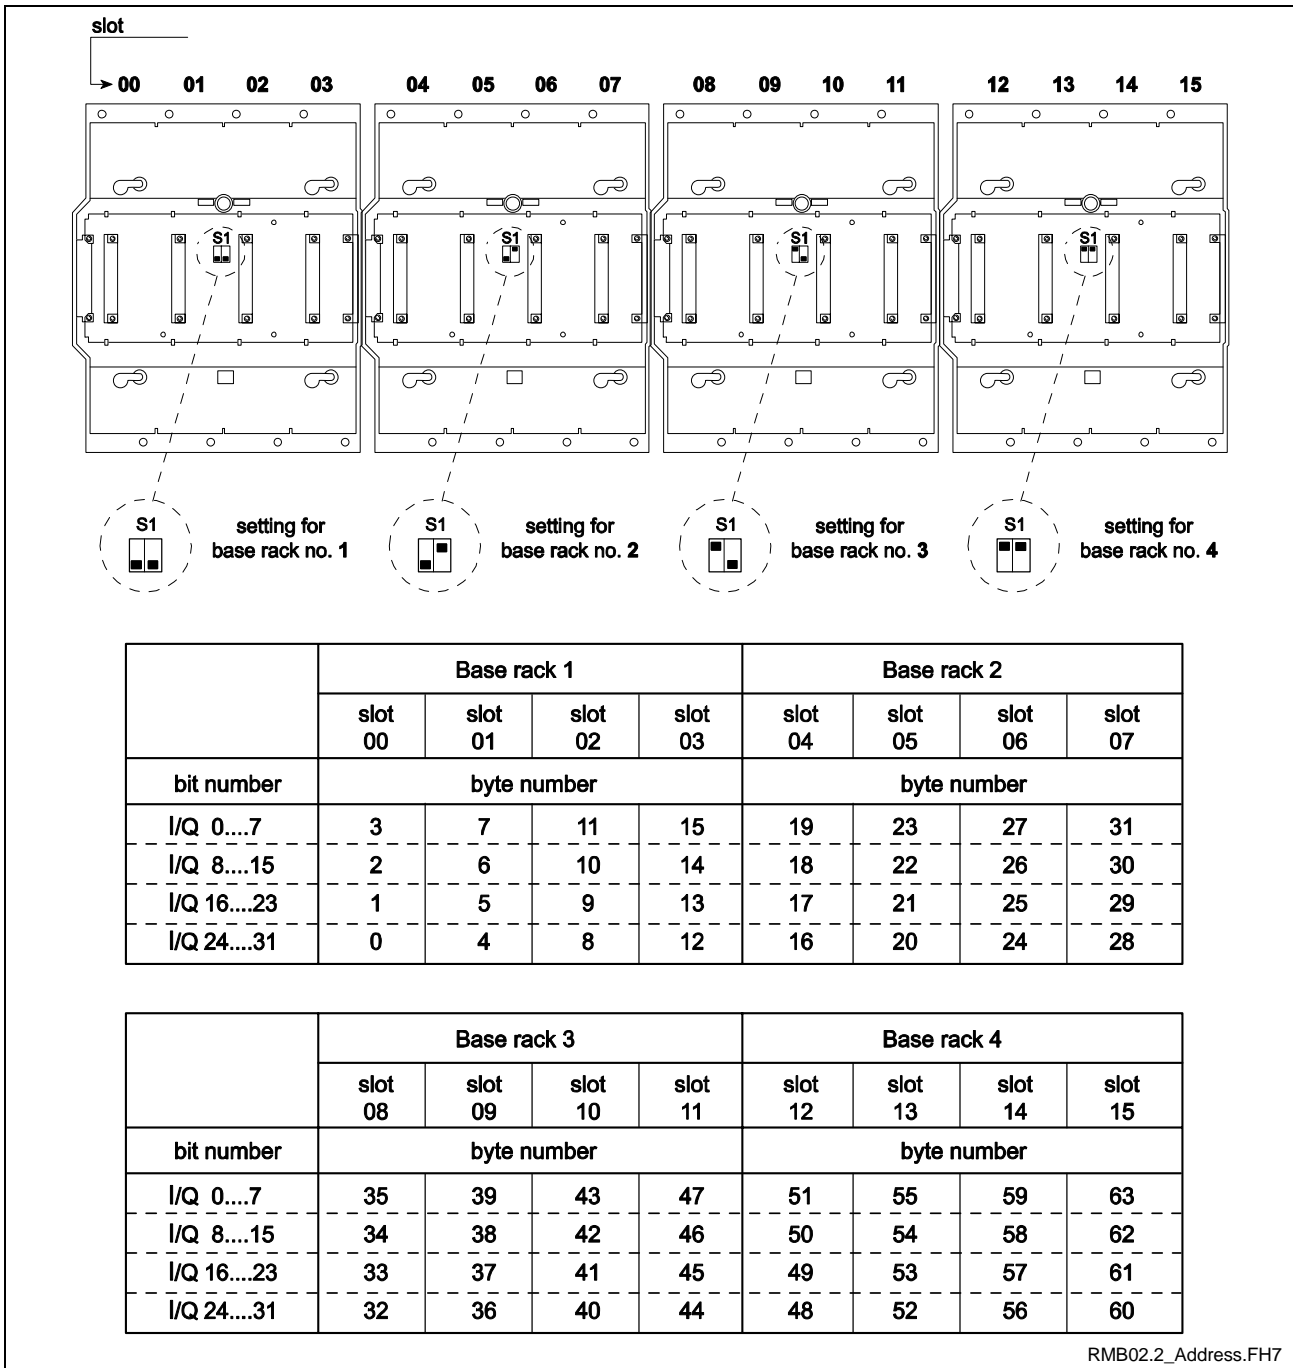

Fig. 4-22: Setting the RECO Rack Addresses
A maximum of four RMB racks can be connected and mounted side by side. Each rack contains an addressing DIP switch for configuring the order of installation as illustrated in Fig. 4-22.
A DIP switch on the rack's bus board enables up to four (4) RMB02.2-04 racks to be addressed individually. Each rack must have its own unique address. Number of racks used in a given application should be addressed as shown in Fig. 4-22.